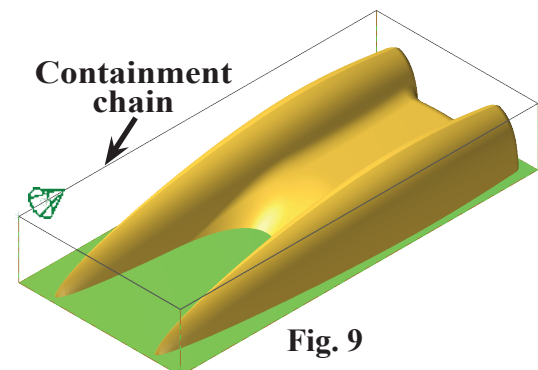

Fig. 9
Step 8. Click a line of top rectangle bounding box. The top rectangle will be selected, **Fig. 9**.